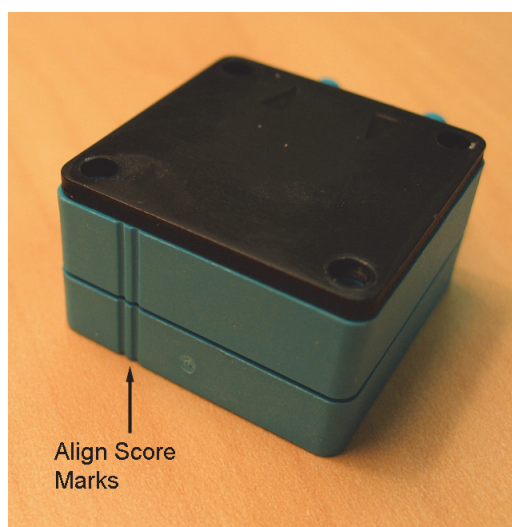

Figure 66: Aligning the Pump Head Plates
14. Place the intermediate plate on top of the valve plate, and then place the top plate on top of the intermediate plate. Be careful to align the score marks, and make sure the flow arrows point toward the connection barbs (Figure 66).
16. Place the pump head on the pump and tighten the four Phillips screws. Do not over-tighten the screws. Make sure the connection barbs are facing away from the pump motor. (Refer to Figure 66 for the correct orientation.)